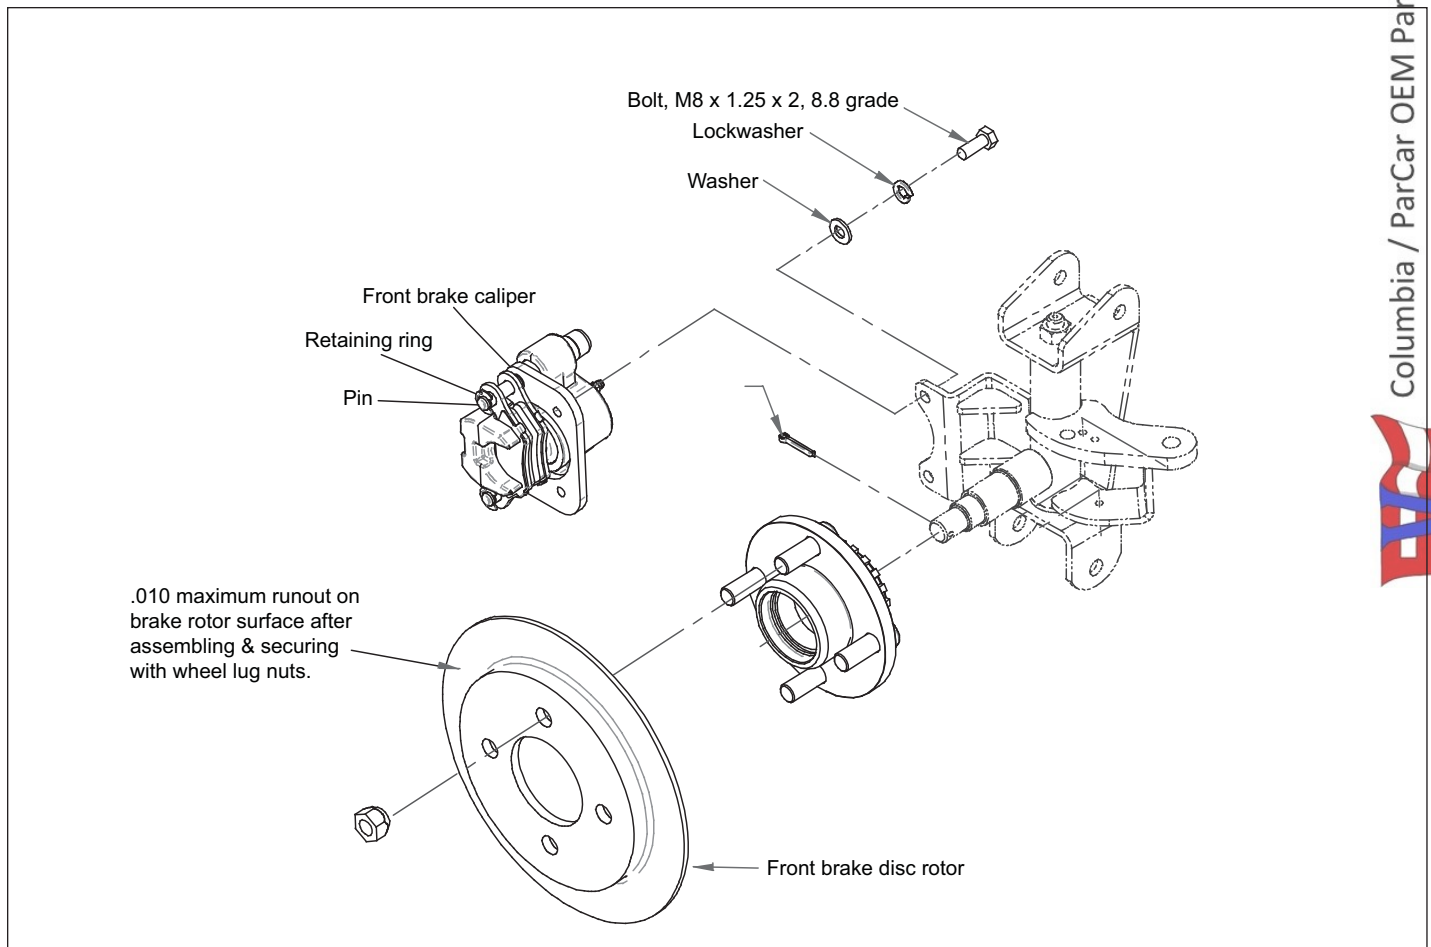

Figure 5-10. Front Disc Brake Assembly
4. Disengage the brakes and remove brake caliper mounting hardware (Figure 5-10).
2. Remove bottom mounting bolt and rotate the caliper off the rotor (Figure 5-10). With caliper still bolted to the vehicle and hydraulic lines connected, press brake pedal until both pistons slide out of the bores. Push one side out, then remove piston from the other side.
4. Remove brake caliper mounting hardware and brake caliper (Figure 5-10).
7. Reinstall brake caliper with mounting hardware (Figure 5-10).